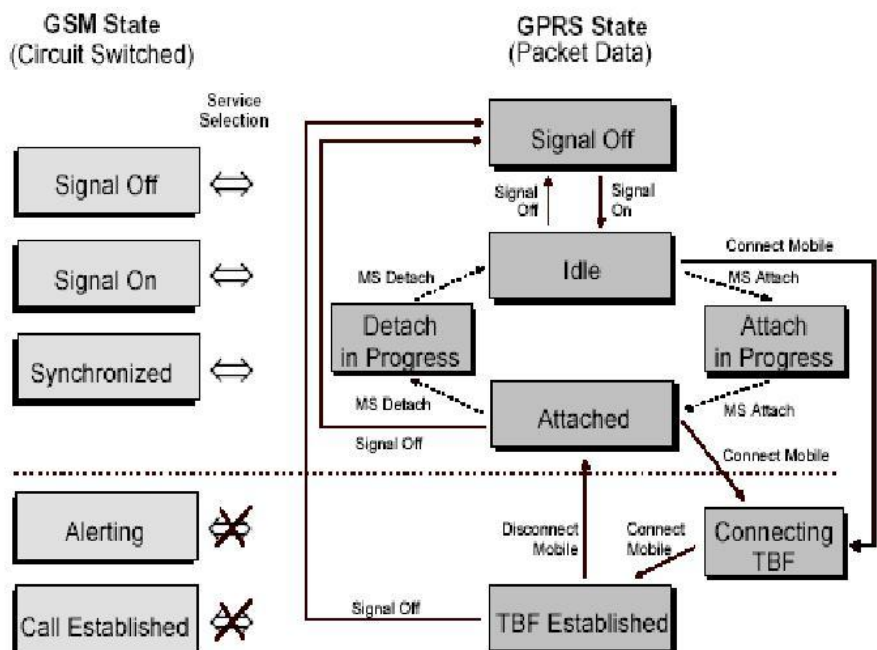

Fig. 9- (E)GPRS states in the CMU
Fig. 9 again shows the internal states in the CMU. GSM and (E)GPRS are identical up to the **Attached** and **Synchronized** state, i.e. a circuit-switched call is also possible in the **Attached** state.